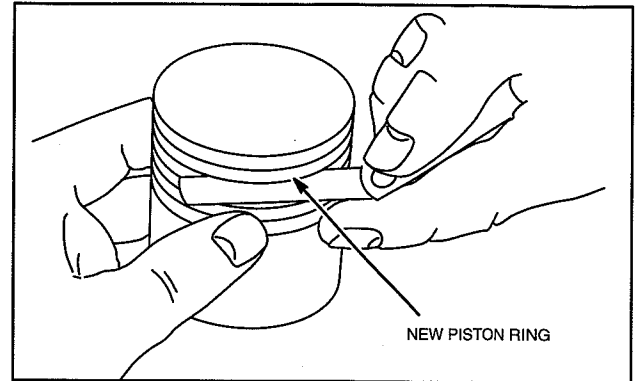

Fig. 3 – Check Ring Grooves
1. Check side clearance of ring grooves using NEW rings, Fig. 3. If a 0.10 mm (.004") feeler gauge for the compression rings or .20 mm (.008") for the oil ring can be inserted, the ring groove is worn. The piston must be replaced.